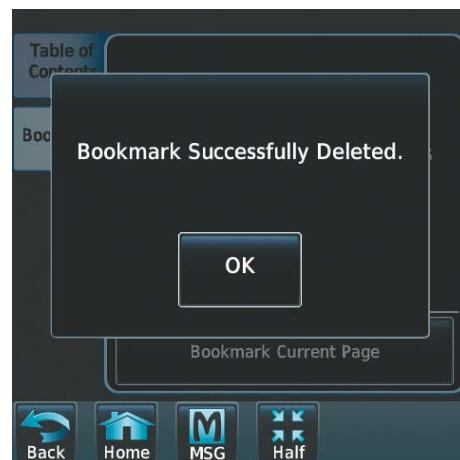

Figure 8-116 Bookmark Deleted
- 4) Touch **OK** on the confirmation screen as in Figure 8-116.